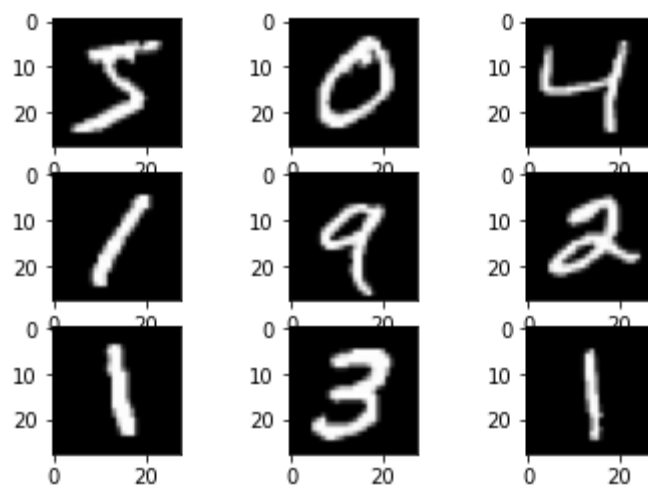

Figure 1: Hand drawn numbers¹.
3. Within the unknown environment are a number of hand drawn numbers, as seen in Figure 1. These numbers will be located randomly around the environment on different surfaces at approximately knee height. You will need to use image recognition to determine the number and note its location.